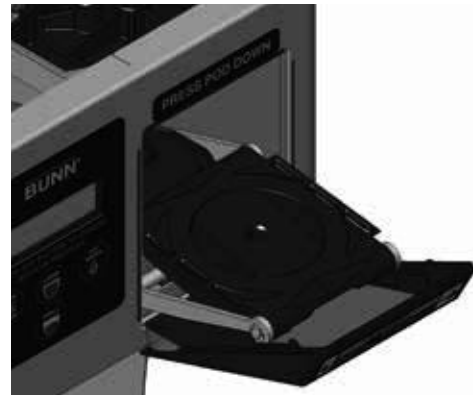

FIG 22-2 Install "puck".
7. Install "puck" into pod holder. FIG 22-2.